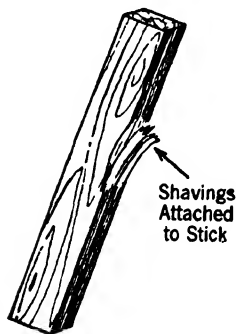

FIG. 4-7.—Fuzz stick.
2. Effect of Surface. A crumpled newspaper burns better than a flat one; shavings burn better than a log of wood. A "fuzz stick" (see Fig. 4-7) is used to start a fire. Finely divided iron burns in air, as evidenced by the sparks seen when a knife is sharpened on a grinding wheel.